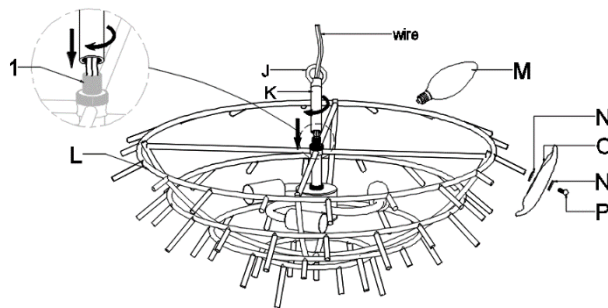

FIG. 2
HANGING THE FIXTURE (Fig.2)
12. Tuck wire connections neatly into junction box (JB). Fig.2.
13. Raise the canopy (H) over ceiling loop (F) and secure with collar ring (I)